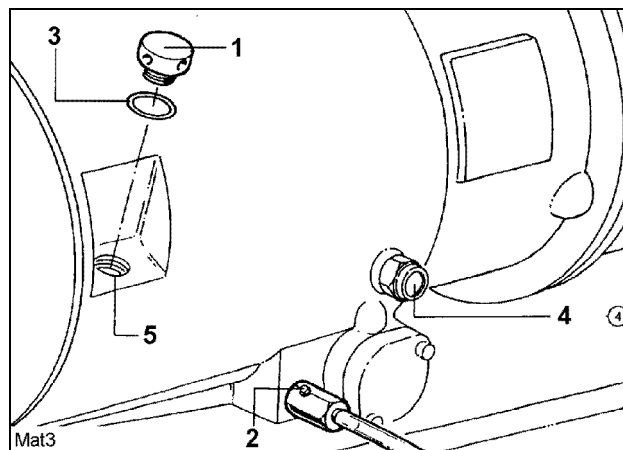

Fig. 1
- Loosen the knurled nut 1 (Fig. 1).